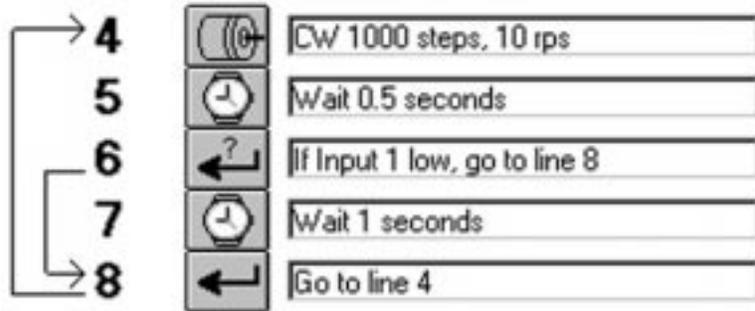

Figure 61
1. It allows skipping part of the program based on an external condition. For example, the MSCLDC's task is to feed parts. Normally the MSCLDC waits only a half second before feeding the next part, because that's how long it takes for the saw to cut the part. However, parts are sometimes made of a different material that takes longer to cut (aluminum vs. steel, maybe). On the days steel parts are run, it would be advantageous to be able to flip a switch and change the delay between parts to 1.5 seconds. Figure 61 shows the program required to accomplish this.